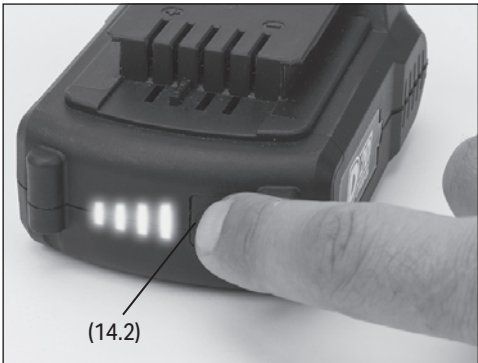

Fig. 2
6.3 Battery Pack Charge Status - Fig. 2.